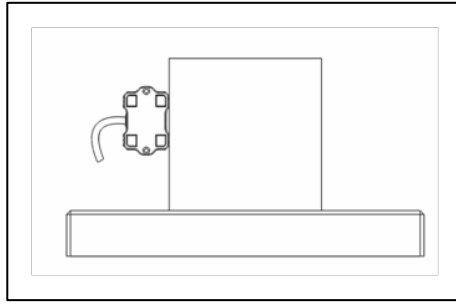

Figure 38. Tilt Sensor Module Position of Calibration Step 4
6. Locate the sensor module as following Figure 38. The sensor is ready for user to perform calibration step 2.